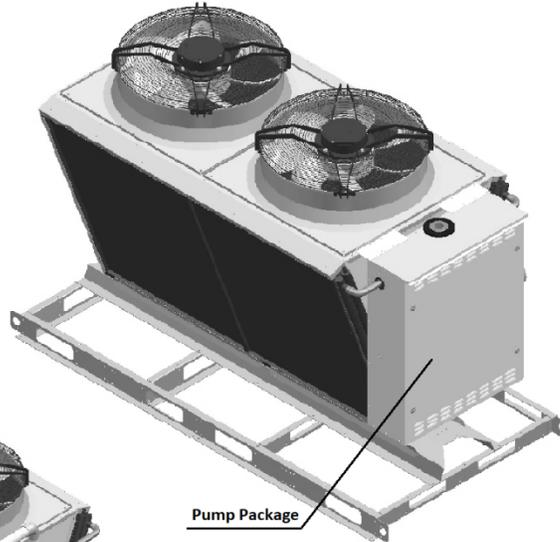
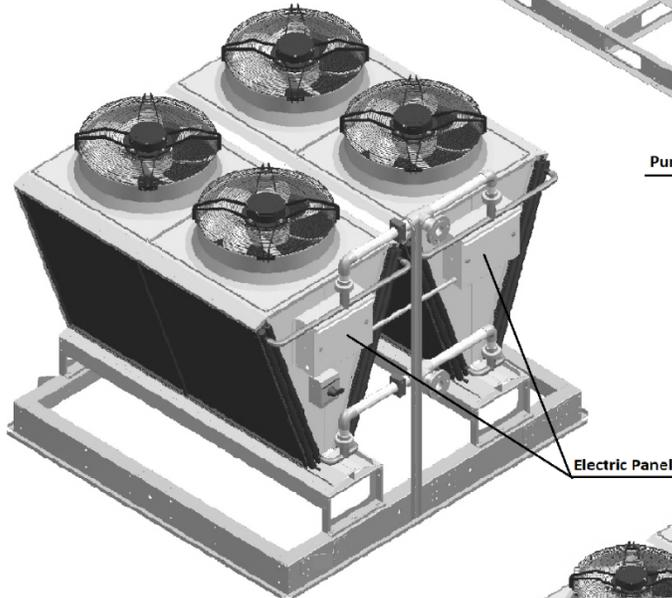
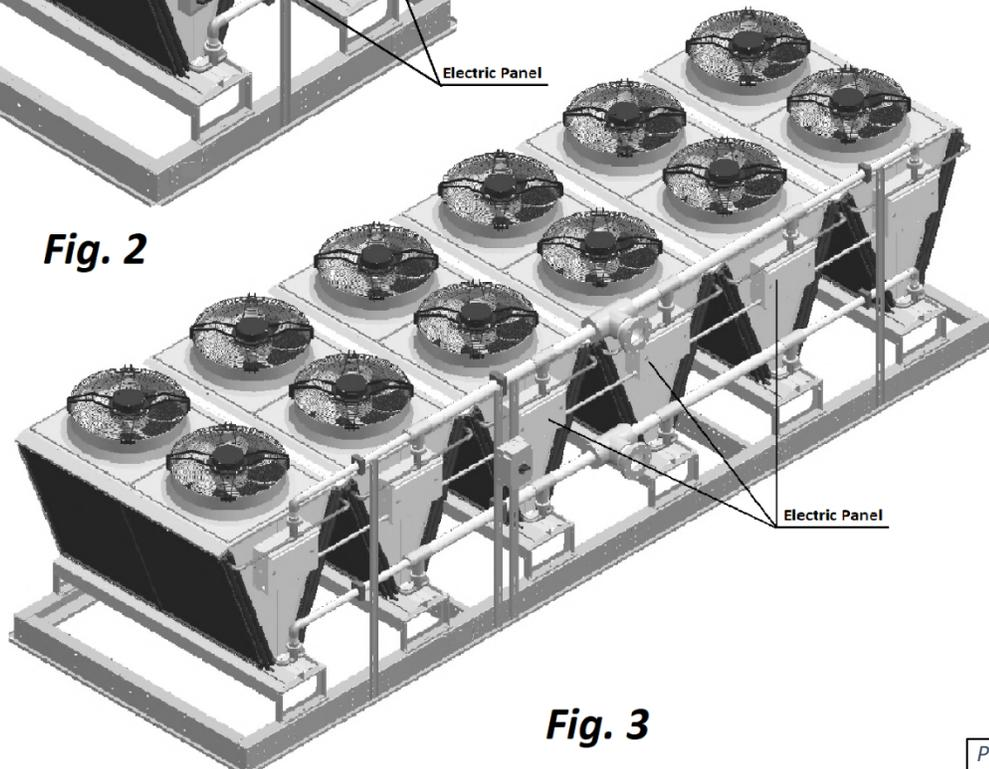

Fig. 1
Fig. 2
Fig. 3
- Dry cooler NG-V-12 (Pic.C.4, Fig.1) is composed of one such block; NG-V-22 (Fig.2) composed of two such blocks etc. largest single dry cooler, NG-V-62 (Fig.3) composed of six of them.
As an option, each block of dry cooler could be equipped with the pump package (as shown on Fig.1 for NG-V-12).
The general layout of AC options is shown on Pic.D.5 below with the dry cooler *NG-V-12*, equipped with additional pump package (*Fig.1*) and *NG-V-32* (*Fig.2*) as an example. While layout and main components are similar for all applicable AC options, there are some deviations (number of fans, composition, etc.). Refer to **AC Options Basic View** (**Basic Information** chapter) for additional information.
- Cooling (AC) **coils** (31) (where heat from glycol mixture is rejected to the ambient air) is mounted onto metal frame, upstream (before) the **fans** (32), that pulls the air through the coils to absorb the heat.
- Normally, dry cooler would have multiple coils and fans. Cooler NG-V-12 (Fig.1), comprised of two coils, mounted on the angle to each other, and two fans, presents a single block. Depending on the capacity, cooler could be comprised of up to six such single blocks, stacked side by side on the same frame and manifolded together – NG-V-32 is comprised of three such blocks.
- Cooler **piping connections** (33) are identified respectively (IN – OUT);
- In some cases, dry cooler piping connection(s) may be located within **pump package** box (37), if dry cooler is provided with one.
- Electric power is normally to be brought to **disconnect** (35) (if cooler is equipped with such), which feeds it to the **electrical box** (36), that contains cooler power and control apparatuses.